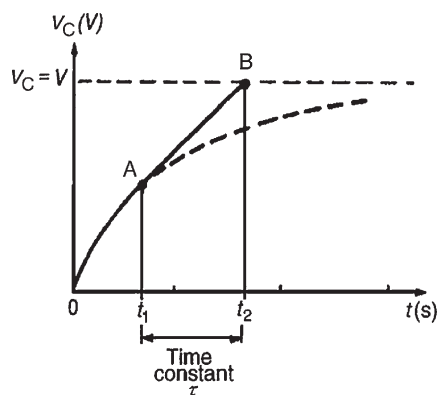

Figure 18.3
- With reference to Fig. 18.3, let the constant voltage supply be replaced by a variable voltage supply at time t_1 seconds. Let the voltage be varied so that the **current** flowing in the circuit is **constant**.